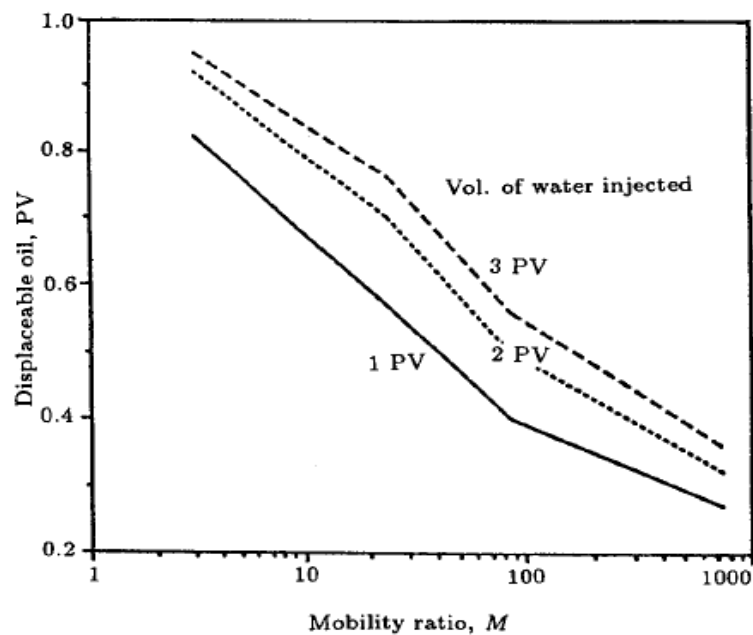

Figure 2.0. Effect of mobility ratio on water flood recovery. S.M Farouq on the principle of EOR
A sample of graph of displaced oil versus mobility ratio is taken from Farouq [4] using Buckley-Leverett (BL) theory as in figure 2.0
From figure 2.0, the oil displaced increases as the mobility ratio decreased. The M value can be made smaller by lowering the viscosity of oil and/or increasing the viscosity of the displacing fluid, decreasing the permeability of oil while increasing the permeability of displacing fluid.